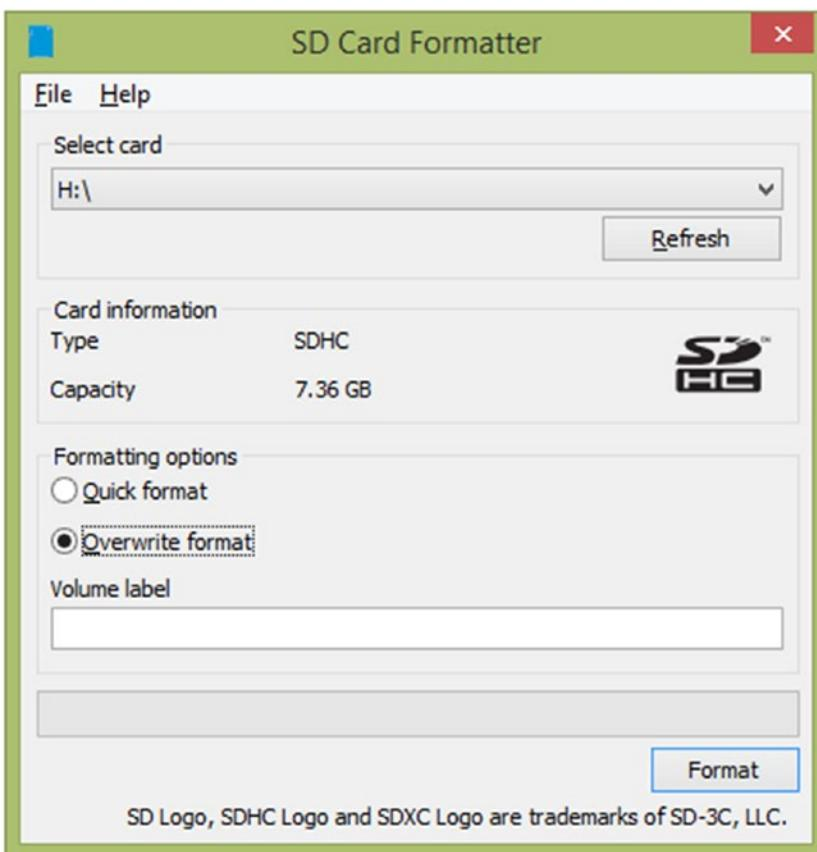

Figure 5-2. Selecting a card and formatting options
2. Start SD Card Formatter and under “Select card,” select the SD card from the drop-down list (Figure 5-2).